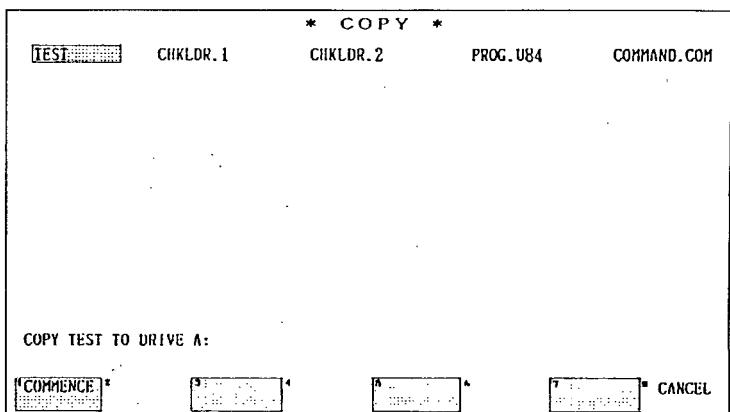

Fig. 7.136
- (1) Prepare the destination disk for writing in advance.
- (2) Depressing **CANCEL** key in the display as shown in Fig. 7.136 calls up the display as shown in Fig. 7.134 again.